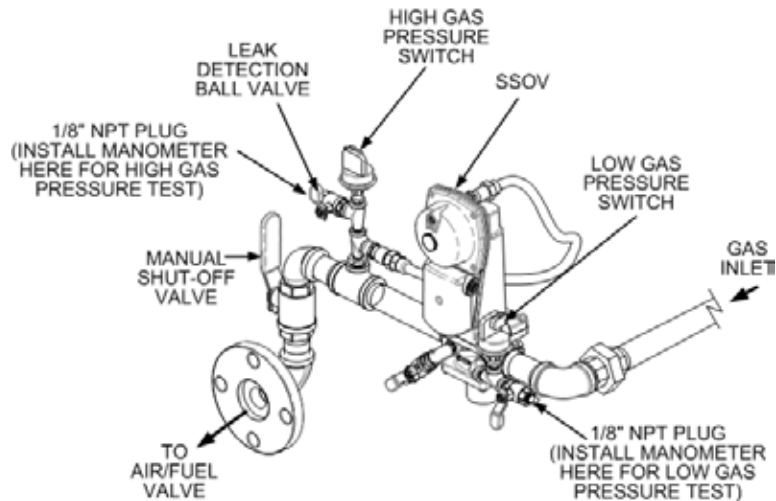

Figure 5-1. Low & High Gas Pressure Testing
Refer to Figure 5-1 and ensure that the leak detection ball valve located at the high gas pressure switch is closed.
1. Remove the 1/8" plug from the ball valve at the low gas pressure switch shown in the lower portion of Figure 5-1.
To simulate a high gas pressure fault, refer to Figure 5-1 and proceed as follows:
1. Remove the 1/8" plug from the leak detection ball valve shown in Figure 5-1.